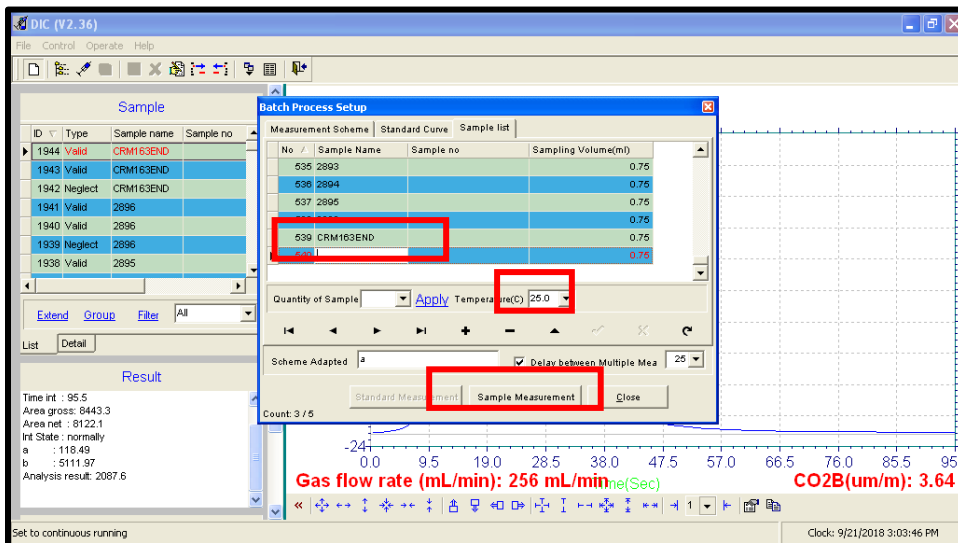

Figure 7. Screenshot of how to enter a new sample and where to click to begin the sample measurement.
11. In the “Sample Name” column, input either the bottle letter ID (ex. 12A) or the bottle tag number on the ziptie (ex. 2124). (Figure 7).